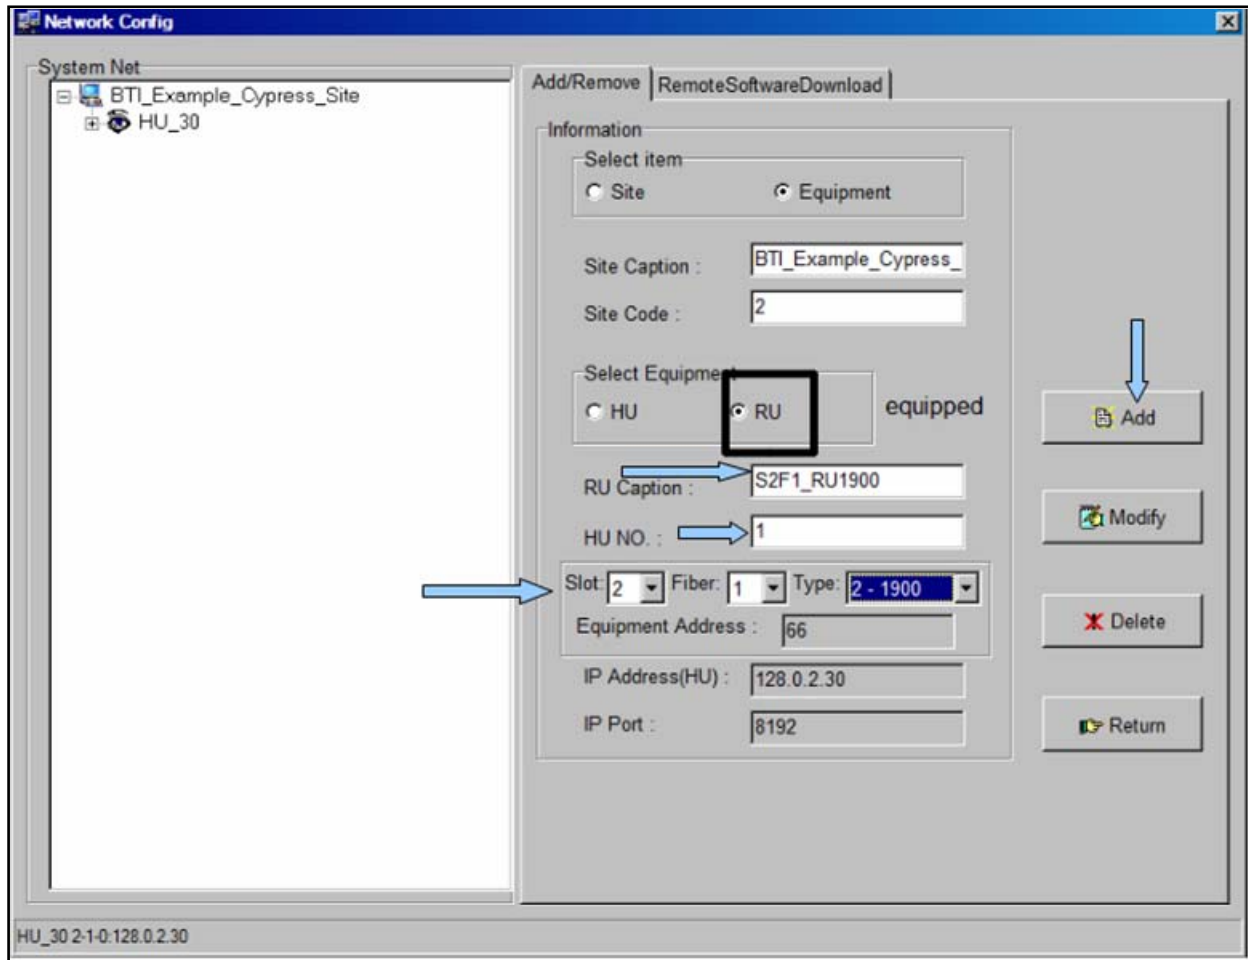

Figure 5-17 Adding Master Remote Unit
7. NMS creates a default name based on the chosen slot, fiber and type values selected as shown in **Figure 5-17**. Modify the Remote Unit Caption with a customer designated name, if desired.